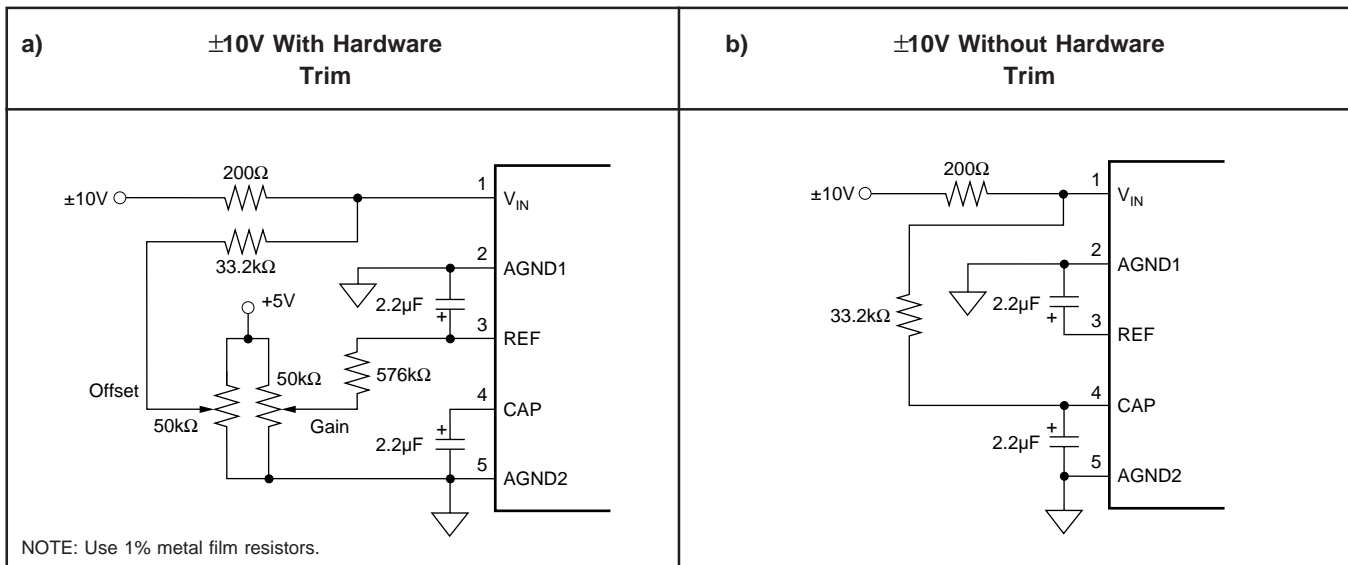

FIGURE 6. Circuit Diagram With and Without External Resistors.
The ADS7805 offers a standard  $\pm 10V$  input range. Figure 6 shows the necessary circuit connections for the ADS7805 with and without hardware trim. Offset and full-scale error(1) specifications are tested and specified with the fixed resistors shown in Figure 6b. Adjustments for offset and gain are described in the “Calibration” section of this data sheet.